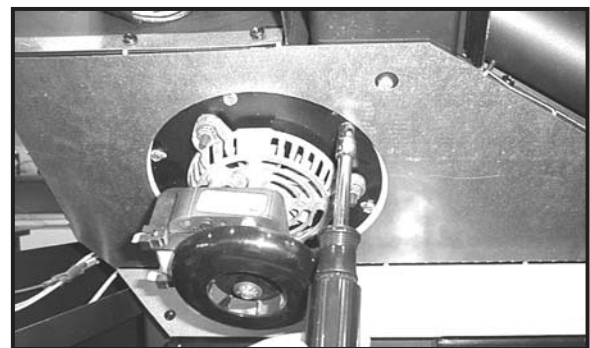

Figure 20.4
- There is a removable plate on the exhaust blower. Using a 1/4" socket or short standard screwdriver loosen the 6 screws in the keyhole shaped holes and rotate the plate. **Figure 20.4.**